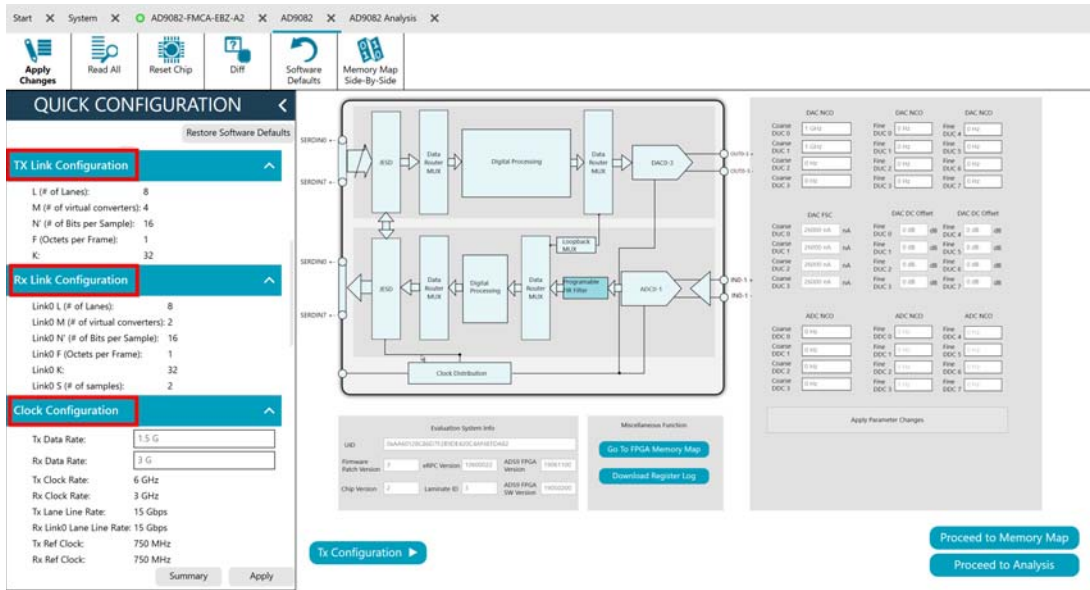

Figure 31. Configuring the AD9081 or AD9082 for Full Bandwidth Mode Using Chip View and the Direct External Clock
- Select the options for the other sections (**TX Link Configuration, Rx Link Configuration, and Clock Configuration**) in the **QUICK CONFIGURATION** pane as shown in Figure 31.